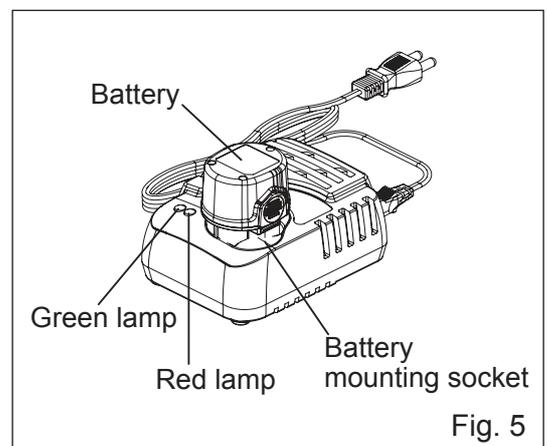

Fig. 5
3. Insert the battery as far as it will go into the mounting on the charger. (Fig. 5)
The battery is fully charged when the lamp stops flashing but remains on. A full charge takes about 70 minutes in total. (Fig. 5)